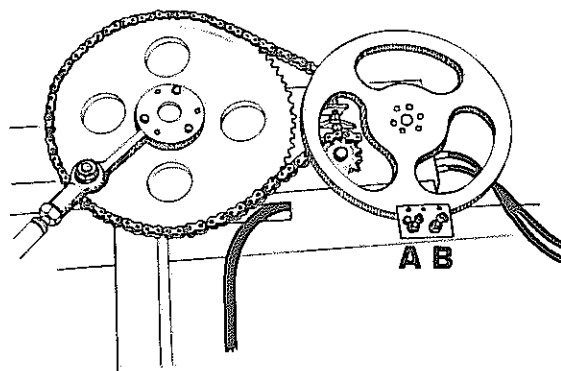

Fig. 32
The knoter brake is used to hold the needle yoke and knoter in the rest position and is always applied. To adjust compress the springs on screws (A) and (B) to $1\frac{1}{4}$ inches length, see **Fig. 32**.